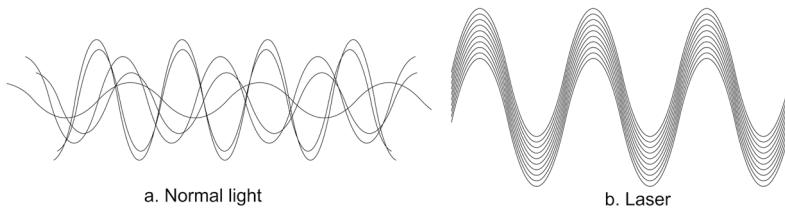

Fig 7.12 Normal and laser light
- **Monochromatic:** Laser light is highly monochromatic, the wavelength spread of laser light is of the order of 0.01 \AA° , whereas ordinary light white light source has wavelength spread (Fig 7.12 a) of 3000 \AA° (Fig 7.12 a).
- **Coherent:** Laser light is highly coherent. We can observe interference phenomena by laser beam. All the waves composing laser beam have same phase (Fig 7.12 b).